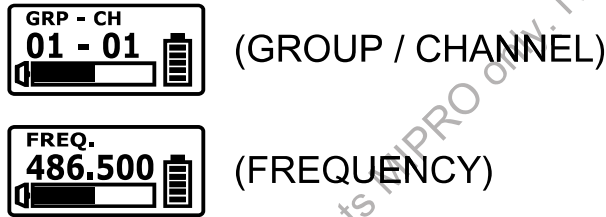

Fig. 9
(A) Group (GRP) / Channel (CH) / Frequency (FREQ.). Fig. 9:
- (1) Group / Channel / Frequency is synced from the receiver and cannot be changed.
- (2) To change Group / Channel / Frequency, do it at the receiver and then press ACT button to sync.